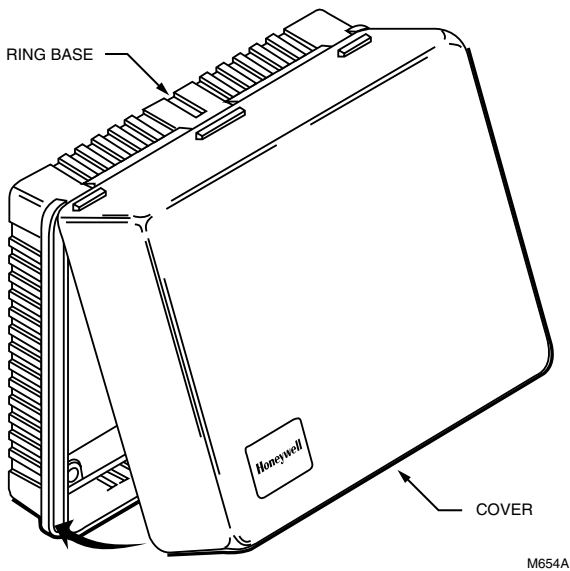

Fig. 7. Mount guard cover (TG510, TG511, TG512 shown).
- 5 Mount the guard cover by placing the hinged edge of the guard cover on the ring base and swinging it down (horizontal mounting) or to the side (vertical mounting) until the guard cover is in place against the ring base. See Fig. 7.
- 9 Mount the guard cover by placing the hinged edge of the guard cover on the ring base and swinging it down (horizontal mounting) or to the side (vertical mounting) until the thermostat guard is in place against the ring base. See Fig. 7.
- 10 Mount the guard cover by placing the hinged edge of the guard cover on the ring base and swinging it down (horizontal mounting) or to the side (vertical mounting) until the guard cover snaps into place against the ring base. See Fig. 7.
- ❽ Wire the back-wired subbase. Refer to the instructions provided with the thermostat.
- ❾ Mount the thermostat subbase (wallplate) and the ring base with the guard wallplate to the junction box using the 1-1/4 in. sheet metal screws provided.
- ❿ Wire the front-wired subbase (wallplate). Refer to the instructions provided with the thermostat.
- ⓭ Mount the guard cover by placing the hinged edge of the guard cover on the ring base and swinging it down until the guard cover is in place against the ring base. See Fig. 7.